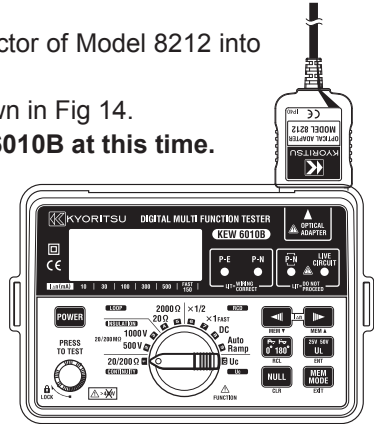

Fig 14
- (1) Firmly insert the D-SUB 9Pin female connector of Model 8212 into the socket (D-SUB 9Pin male) of PC.
- (2) Insert Model 8212 into KEW 6010B as shown in Fig 14.
- (3) Power on KEW 6010B. (Any function is OK.)
- (4) Start special software "KEW Report" on your PC and set the communication port. Then click "Down load" command, and the data in KEW 6010B will be transferred to your PC.